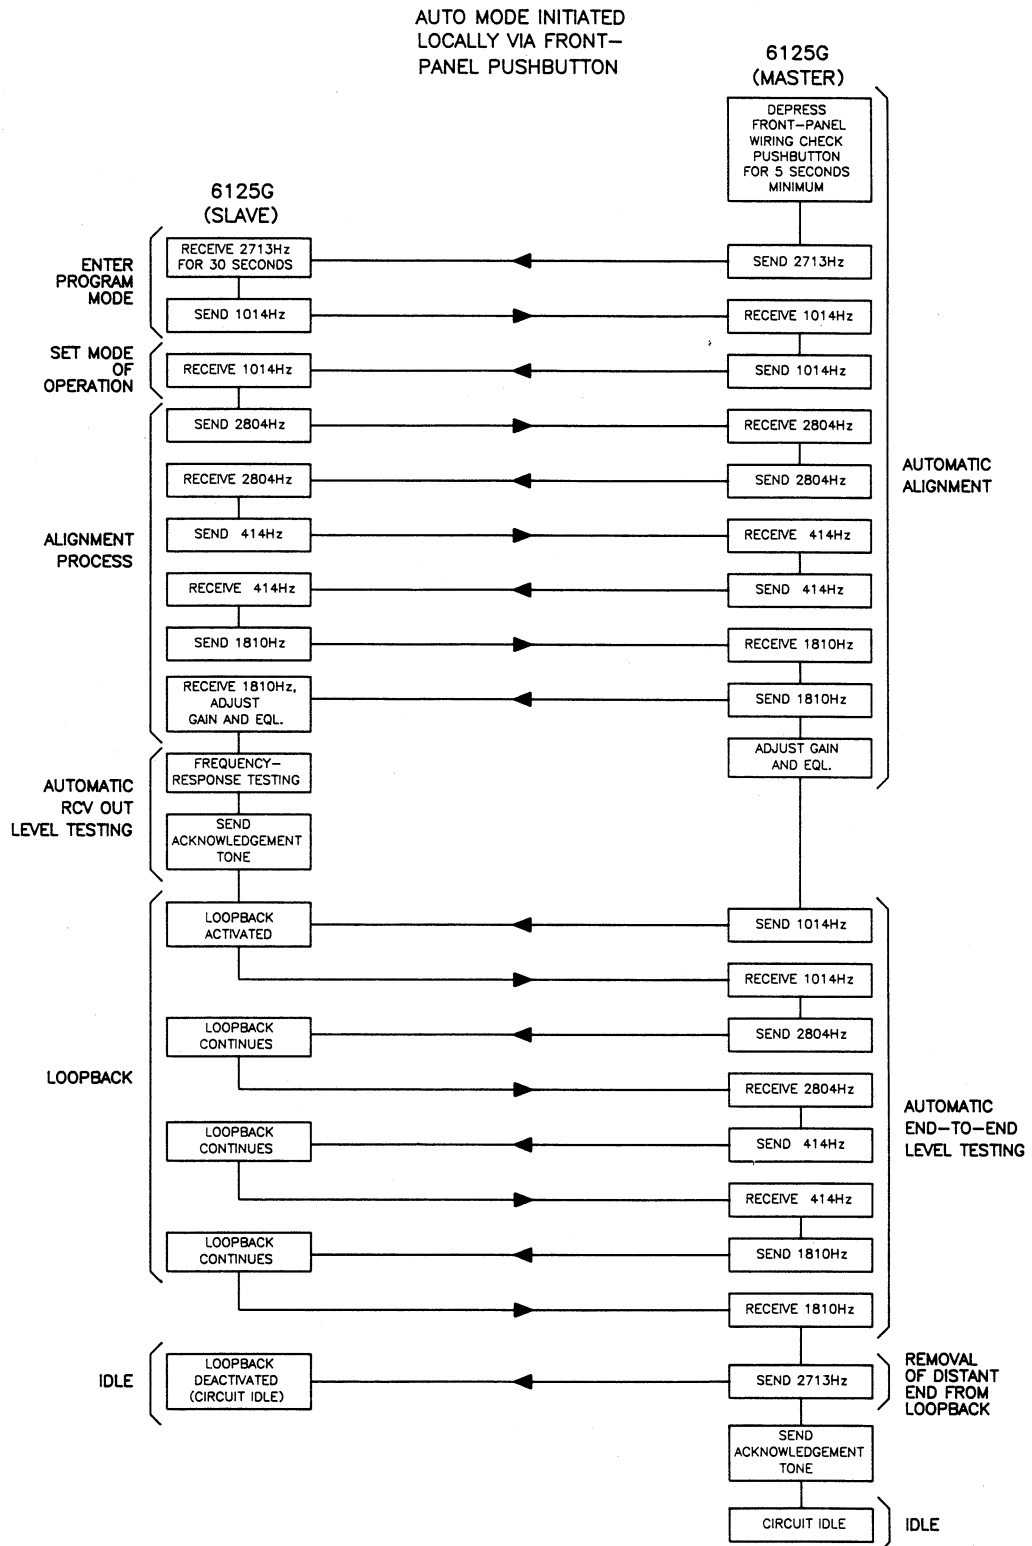

figure 11. Alignment flowchart for AUTO mode initiated locally via front-panel pushbutton
- 3.08 If AUTO-mode alignment is to be initiated at the 6125G's installation site, perform the AUTO-mode alignment initiation procedure in table 11 while referring as needed to figure 11, a flowchart showing the end-to-end AUTO alignment process.
* Figure 11 and table 11 are located in section 3 of this practice.